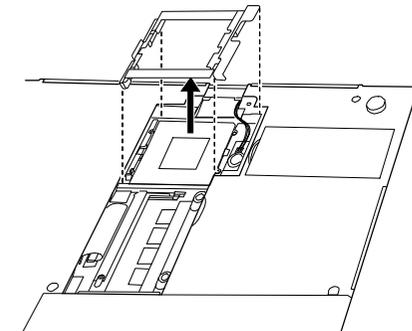

Figure 5-11. Unplug the thermal pad and the metal
4. Gently remove the thermal pad and the metal shield around the CPU. (Refer to Figure 5-11)